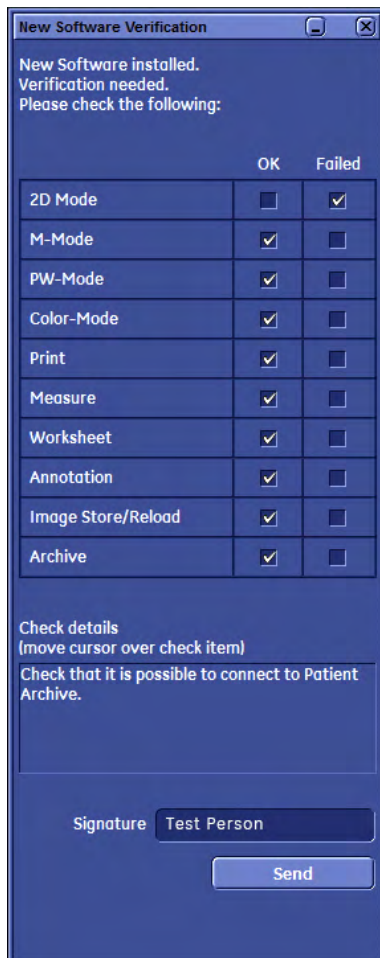

Figure 8-19 New Software Verification
19. When all features are **OK** enter your signature and then click **Send**; see: Figure 8-19 above.